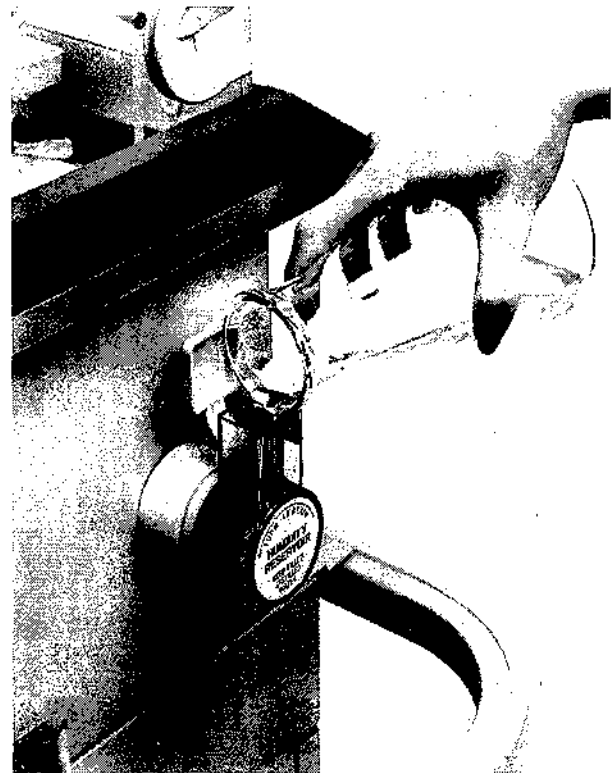

FIGURE 4.13 FILLING HUMIDITY CHAMBER
D. HUMIDITY RESERVOIR. If additional humidification is prescribed by the attending physician, fill the humidity reservoir (Figure 4.13) with 2200 cc of sterile distilled water. A single filling is enough for at least one full day of operation; relative humidity inside the Incubator is typically at 50-60% under these conditions.